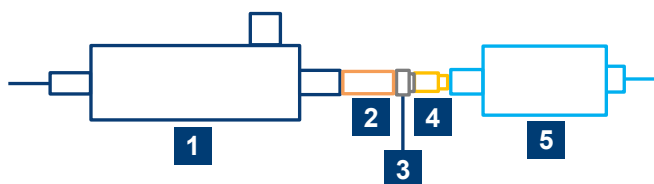

Figure 9-2: Adapter setup for R&S URV5-Z7
*) Two adapters are required: 50 Ω adapter (R&S URV5-Z50) and adapter for R&S URV5-Z50 adapter; the order is shown in Figure 9-2